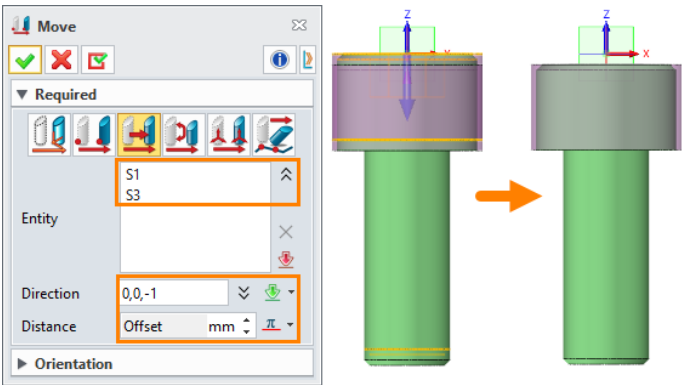

Figure 26 Move
**STEP 08** Set the body offset for the countersunk screw following **Shape->Basic Editing->Move**. Select both the screw body (S1) and the screwhead pocket (S3), move the entities along the **-Z axis**, and set the expression **Offset** as the Distance, as shown in Figure 26.